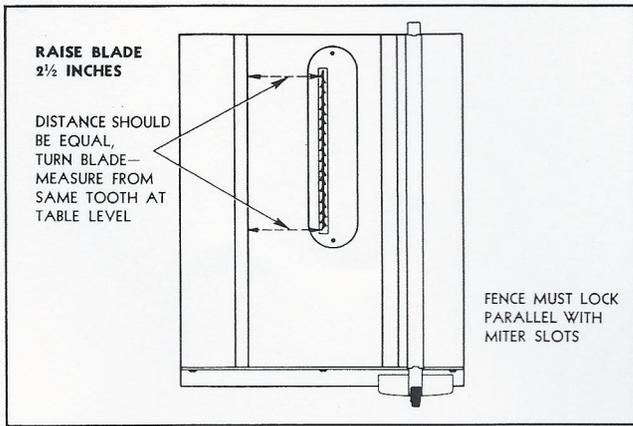

FIGURE 5
The Blade Must Be Parallel with the Miter Slots in the Table to Get a Straight Cut. (See Fig. 5).
2. Measure **accurately** from a raker tooth on the blade to an edge of either miter slot, as explained and shown in Fig. 5.